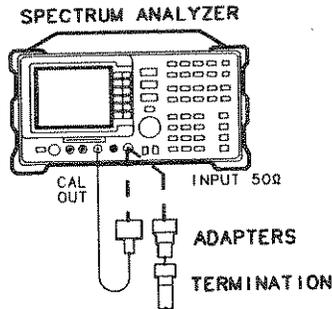

Figure 4-24. Reference Offset Test Setup
1. Connect a cable from the CAL OUT to the INPUT 50Ω of the HP 8593A as shown in Figure 4-24. (*Option 026:* Use the BNC to SMA adapter to connect the cal comb cable to CAL OUT. Use the APC 3.5 adapter to connect the cal cable to the INPUT 50Ω.)